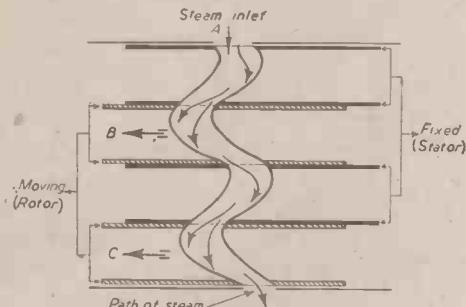

Fig. 1. Illustrating the principle of using steam expansively in a turbine.
The turbine may utilise the energy in steam by expansion, as in the reaction type, or by making use of the kinetic energy of a steam jet. The Parsons turbine is an outstanding example of the first method and the De Laval, the second one. Simple diagrams illustrate both principles, as shown in Figs 1 and 2. In practice the two principles are usually combined, as for example, in the well-known Rateau, Curtis and Zoelly turbines. The steam is admitted at A (Fig. 1) and because it endeavours to expand it acquires a velocity which drives it into the channel, or vane, at B, which is attached to a moveable wheel. The latter then tends to revolve and brings a second, third, and so on, vane into alignment with A, so that the wheel, or rotor, to give it its proper name, is kept revolving. After leaving B, the steam passes into a fixed vane, on which the steam, so to speak, gets a hold so that it can shoot itself into the moveable vanes on the rotor C, which is then also made to rotate. A large number of fixed and moveable channels are arranged in series in the turbines employing the Parsons' principle, so that as much energy as possible is extracted from the steam between A and C, the two rotor chambers being, of course, multiplied some dozens of times, and all attached to a common rotor. The fixed vanes are referred to as the stator. In Fig. 1 (B) the revolving energy is supplied to the rotor by virtue of the momentum of the steam impinging on it at A, this momentum coming from the expansion of the steam. That is why it is referred to as being an impulse-type turbine, although one should not liken the principle too closely to that of the Pelton Wheel, in which water jets impinge tangentially on the rotating wheel, because in the case of the steam, the velocity along the axis of the rotor, due to the expansion, will not be unimportant, whereas with water all of the motive power is due to momentum.